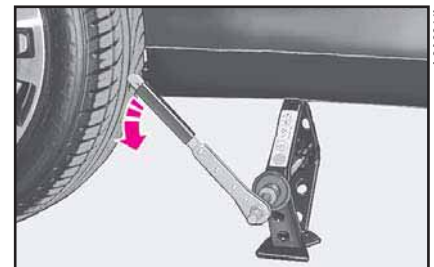

fig. 18
20) Lower the car and remove the jack (fig. 18).